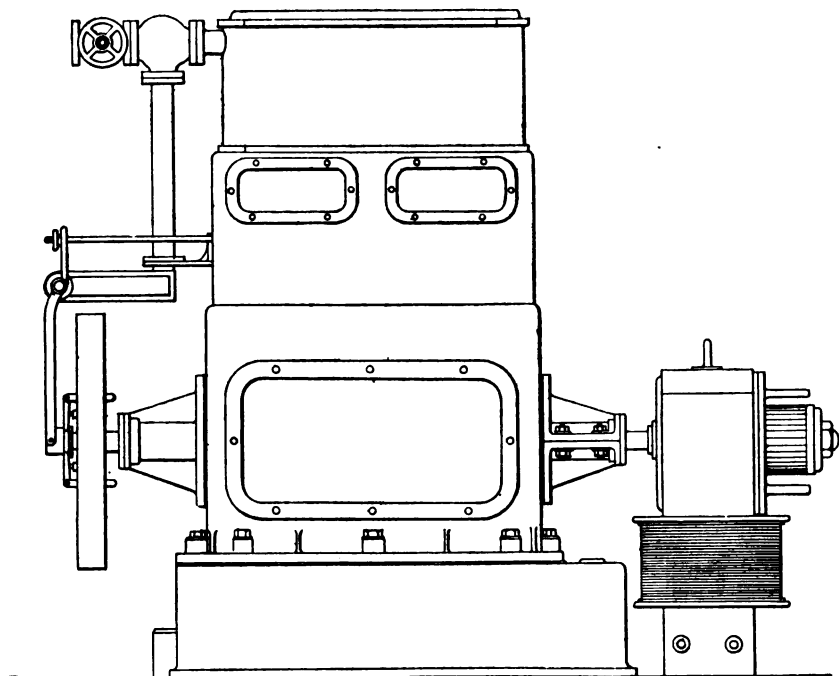

Fig. 8.—Chandler's Engine and Dynamo connected direct.
*Direct Driving.*—It may be said that, almost without exception, direct connection necessitates the providing of a cast-iron bed-plate common to both engine and dynamo. Engines intended for dynamo-driving are generally built upon such a bed-plate, their shaft-bearings being cast solid with the bed. The dynamo is bolted to the same plate, with its axis parallel and is concentric with that of the engine. Rigid couplings are the rule, but some makers prefer to use flexible couplings. Fig. 8 exhibits the arrangement showing a Chandler's engine and a dynamo connected direct.